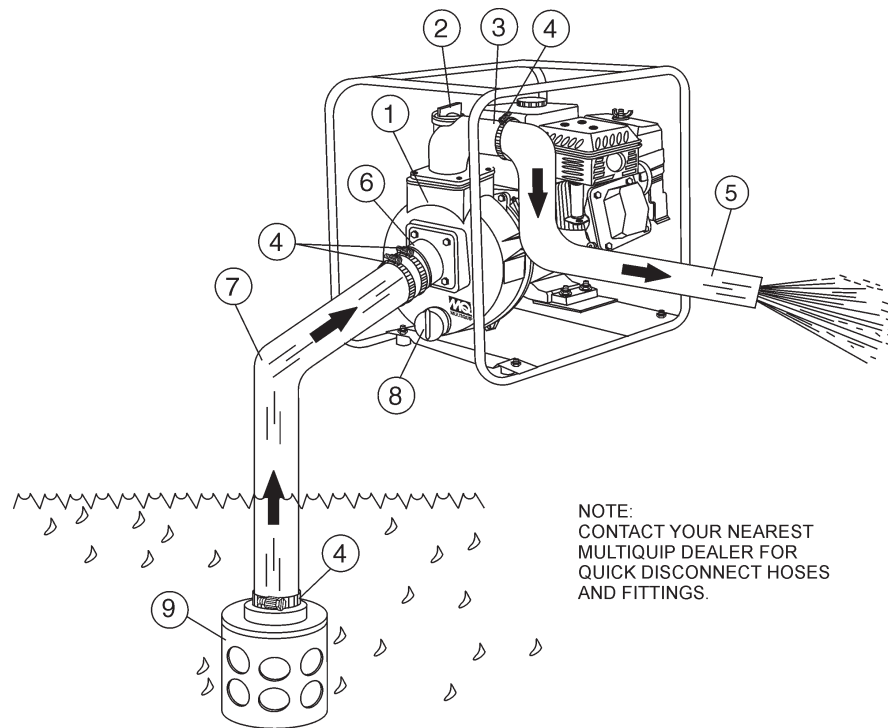

Figure 2. QP2H Pump Application
Figure 2 shows a typical application using the QP2H centrifugal pump. Please note that this pump is intended for the removal of clean water.
2. To prime pump, remove fill cap (Figure 2) and fill pump casing with water. If the pump casing is not filled with water before starting, it will not begin pumping.
3. Attach suction and discharge hoses to the pump. Check that all hoses are **securely** attached to the pump. Make certain suction hose (Figure 2) does not have any air leakage. Tighten hose clamps and couplings as required.
6. Check that the **discharge** hose (Figure 2) is not restricted. Place hose so that it lays as straight as it is possible on the ground. Remove any twists or sharp bends from hose which may block the flow of water.
8. Make sure the **suction strainer** (Figure 2) is clean and securely attached to the water end of the suction hose. The strainer is designed to protect the pump by preventing large objects from being pulled into the pump.